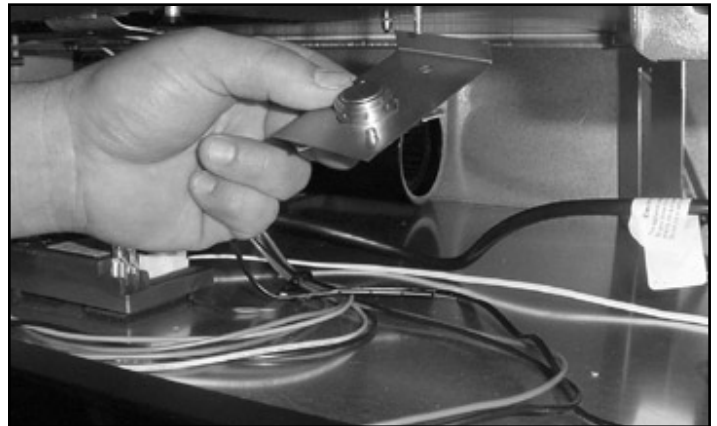

Figure 5 Installing Temperature Sensor Switch
- Attach the temperature sensor switch to the threaded stud (located in the right front of the appliance) with the wing nut provided. See Figure 5.